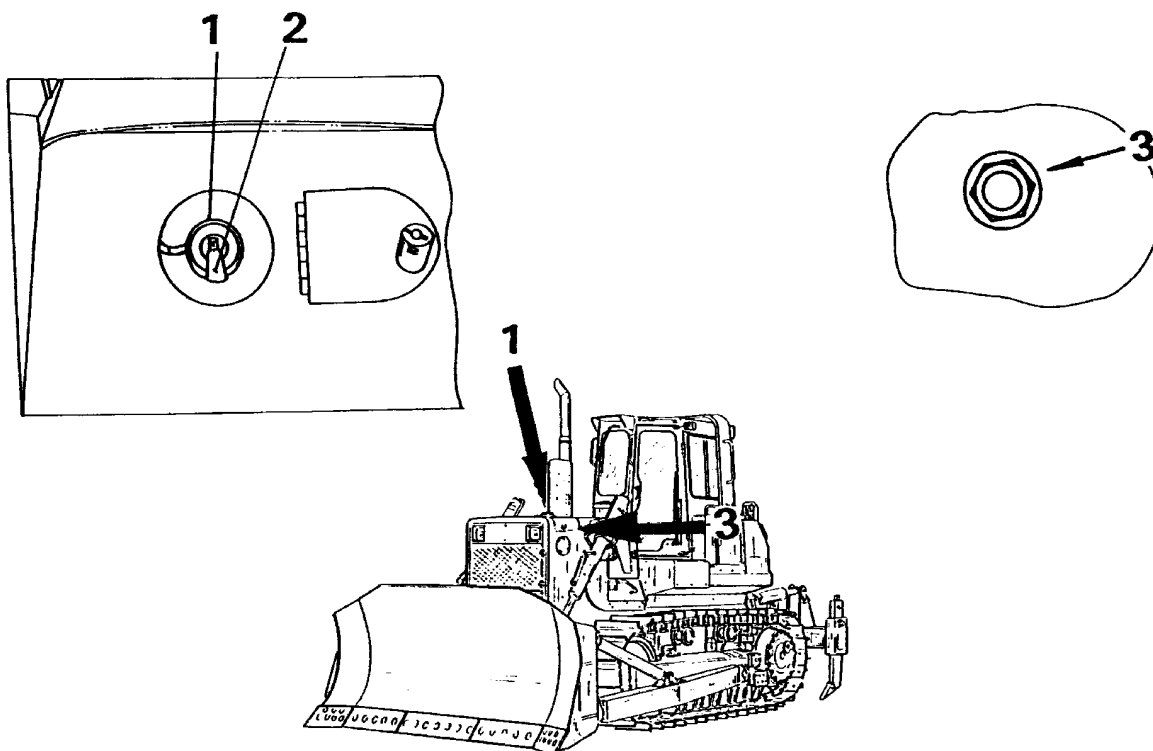

Fig. 5.8. Radiator Cap and Coolant Level Sight Gauge
1. Check the coolant level daily to be sure that level is proper. Coolant level must be seen in the inspection hole (3) Fig. 5.8.